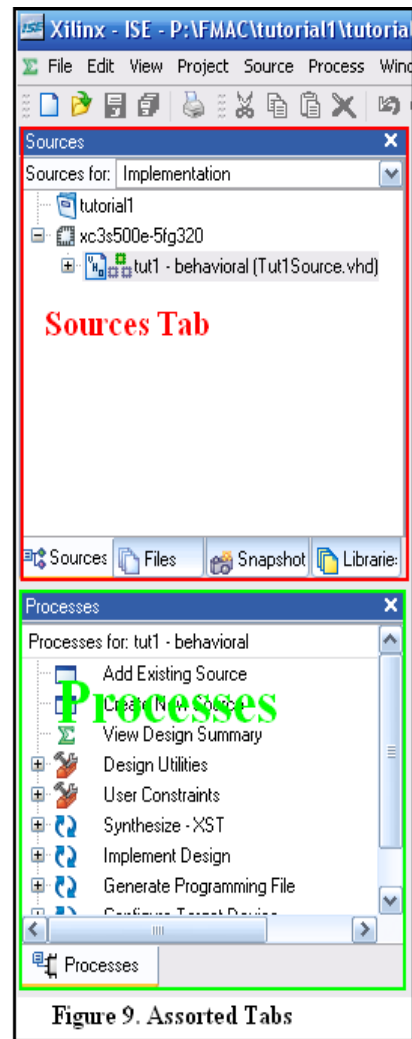

Figure 9. Assorted Tabs
7. Figure 9 shows that there are two major sections where most of the work is done. The windows are the Sources tab and the Processes tab. In the Sources tab, the tree structure is displayed. If you check on the “+” symbol you will see how the .ucf file falls below the source file.